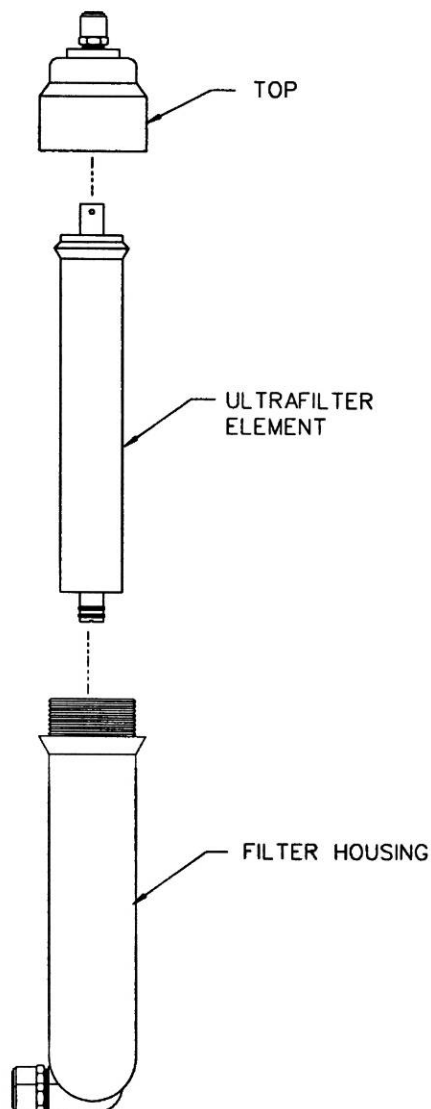

Figure 10
4. Disconnect inlet and outlet tubing by holding in the gray collar of the fitting and removing the tubing. Refer to Figure 10.